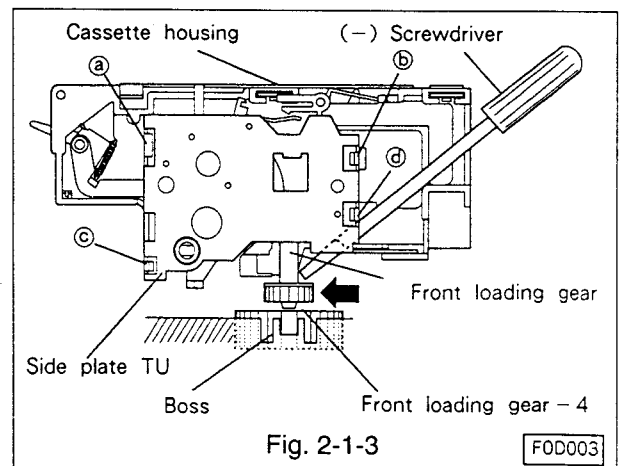

Fig. 2-1-3
- In step A above, if the front loading gear of the cassette housing does NOT engage the boss on the main plate, carefully push the gear toward the front of the VCR using a small-diameter screwdriver, as illustrated in Fig. 2-1-3. If the gear still will not engage, rotate the Front Loading Gear a few degrees from below the deck until the gear engages the boss correctly.
2-2-1 Removal(Refer to Fig. 2-1-3~2-2.)
- Unfasten four snaps[(a),(b),(c) and (d)]as shown in Fig. 2-1-3, and remove the side plate TU.
2-2-2 Installation(Refer to Fig. 2-1-3~2-2.)
- Install the side plate TU to the cassette housing, and secure it with four snaps[(a),(b),(c) and (d)]as shown in Fig. 2-1-3.